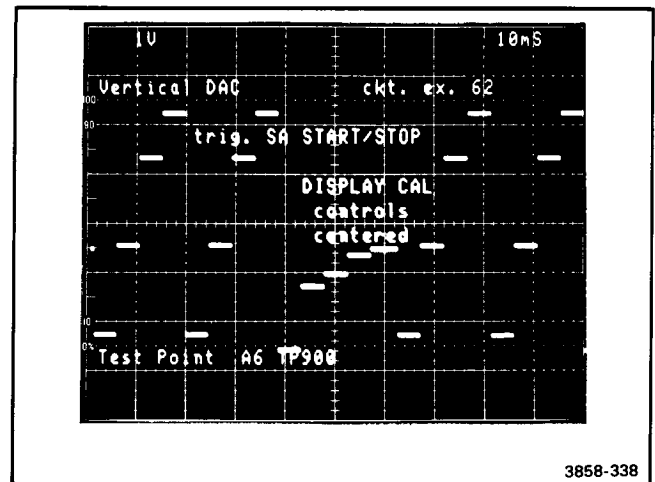

Figure 3-18. Waveform for Vertical DAC test.
- 34) Vertical DAC (62). If this test fails, place the Display Board on an extender and run circuit exercise 62. Use an oscilloscope to troubleshoot the Vertical DAC. Waveform Figure 3-18 is a typical output of this test. The SA Start/Stop line provides a stable oscilloscope trigger while using this test for troubleshooting.